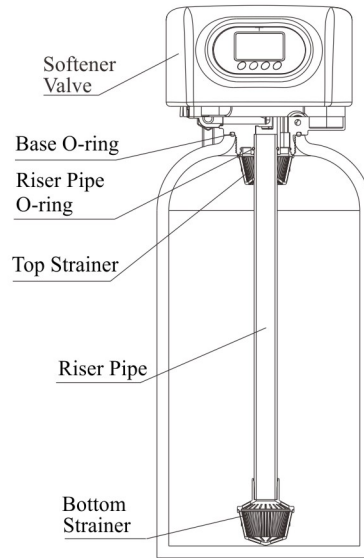

Figure1-1
- ①The filter or softener should be located close to the drain.
- ②Ensure the unit is installed in enough space for operating and maintenance.
- ③Brine tank needs to be close to softener.
- ④The unit should be kept away from the heater, and not be exposed outdoor. Sunshine or rain will cause the system damage.
- ⑤Avoid installing the system in circumstance of acid/alkaline, magnetic or strong vibration, because above factors will cause the system disorder.
- ⑥Do not install the filter or softener, drain pipeline or overflow pipe in circumstance where temperature may drop below 5°C, or above 50°C.
- ⑦Install the system in the place where with the minimum loss in case of water leakage.
①Install control valve
a. As the Figure 1-1 shows, select the riser pipe with 26.7mm OD, glue the riser pipe to the bottom strainer and put it into the resin tank, cut off the exceeding pipe out of tank top opening and make external rounding.